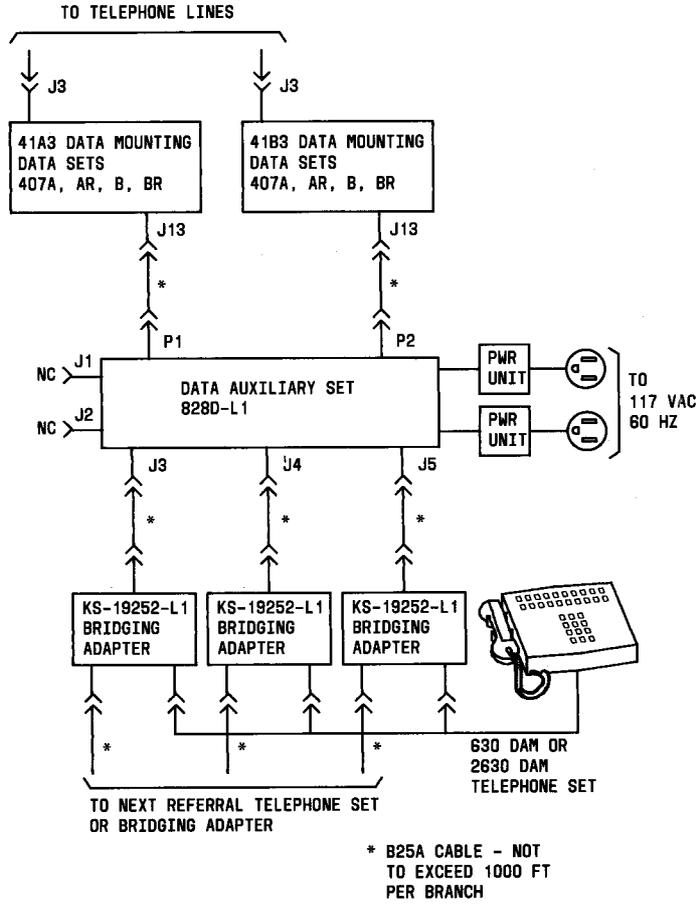

Fig. 5—407A, AR, B, or BR Data Station Arrangement Using 630DAM or 2630DAM Referral Telephone Set
4.06 *Installation Using DS 407A, AR, B, or BR With 630DAM or 2630DAM Referral Telephone Set(s):* Interconnect the DAS to the data station as shown in Fig. 5 using B25A cable. Mount the KS-19252-L1 bridging adapters and interconnect with the DAS using B25A cable. Connect the referral telephone set(s) to the bridging adapters.